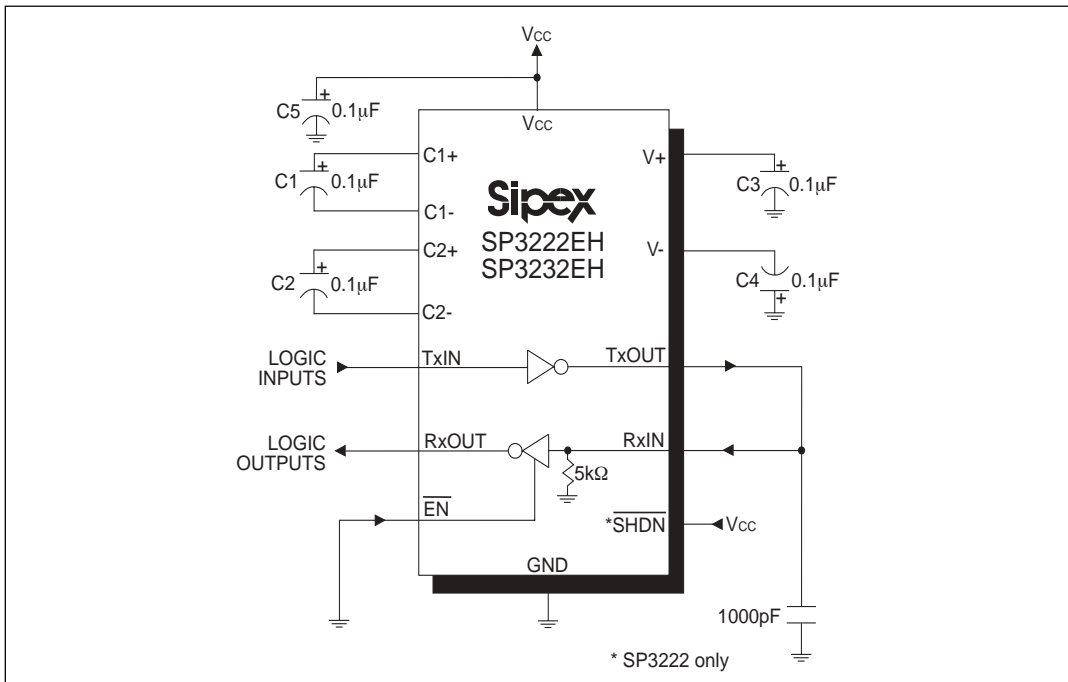
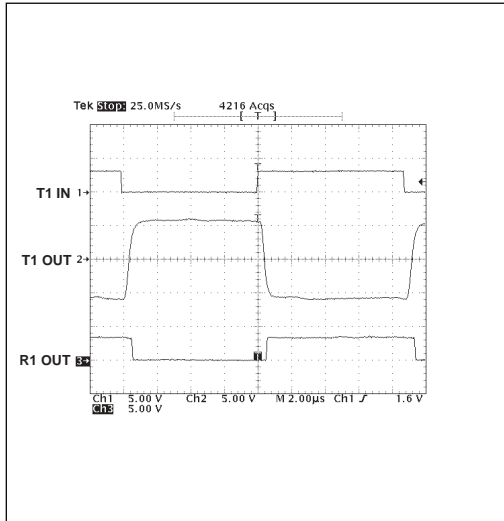
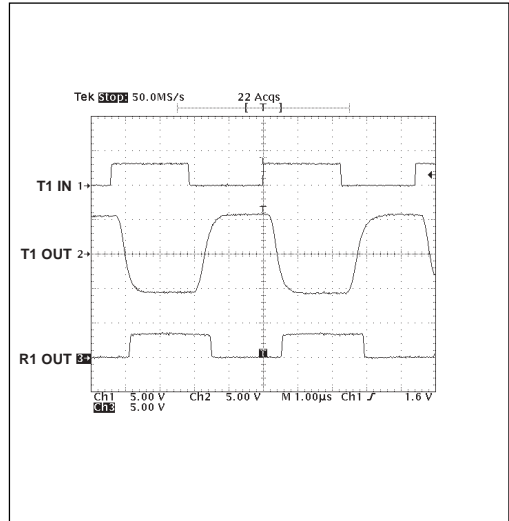

Figure 8. SP3222EH/3232EH Driver Loopback Test Circuit
Figure 9. Driver Loopback Test Results at 120Kbps
Figure 10. Driver Loopback Test Results at 460Kbps
*Figure 8* shows a loopback circuit used to test the RS-232 drivers. *Figure 9* shows the test results of the loopback circuit with all drivers active at 120Kbps and RS-232 loads in parallel with 1000pF capacitors. *Figure 10* shows the test results where one driver is active at 460Kbps and all drivers are loaded with an RS-232 receiver in parallel with a 1000pF capacitor.